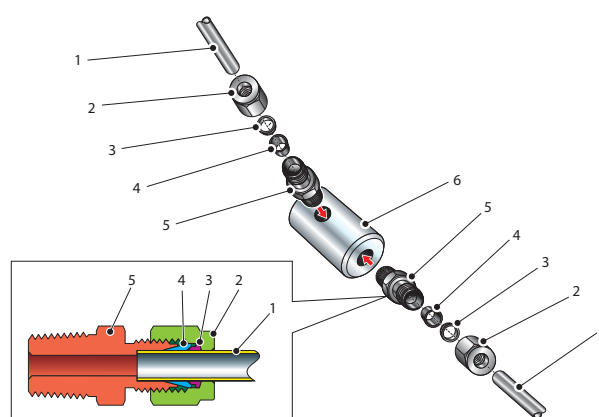

Figure 8 *Sample Block Gas Connections*
Sample gas connections are made to the Gas In and Gas Out ports on the sample block see *Figure 8*. Either port on the sample block may be used as the Gas Input port (i.e. for connection purposes the ports are interchangeable).
Both the Input and Output gas connections are  $\frac{1}{8}$ " NPT. It is recommended that both the Gas Input and Output connections are made via  $\frac{1}{8}$ " NPT to 6mm or  $\frac{1}{8}$ " NPT to  $\frac{1}{4}$ " stainless steel tube adaptors (2 to 5 – *Figure 8*). The method of connection to the sensor block (6) is as follows:
1. Cut a suitable length of 6mm ( $\frac{1}{4}$ " U.S.) stainless steel tubing (1) and, if necessary, bend to shape to suit the location of the sensor block assembly. **NOTE: To facilitate ease of connection to the port, at least 75mm (3") of the tubing coming out of the Gas In port should be straight.**
4. Screw the  $\frac{1}{8}$ " NPT Swagelok adaptor (5) into the  $\frac{1}{8}$ " NPT inlet port in the sensor block (6) and tighten to a torque setting of 35 Nm (25 lbf-ft).
5. Pass the stainless steel tubing (1) through the locking nut (2). NOTE: Threads towards the gas port.
6. Fit the back ferrule (3) over the stainless steel tubing (1) with the bevelled end facing the back of the front ferrule (4).
7. Place the front ferrule (4) over the stainless steel tubing (1), bevelled end towards the adaptor (5).
8. Push the stainless steel tubing (1) as far as it will go into the adaptor (5) and tighten up the locking nut (2) finger tight.
9. Hold the adaptor (5) flats with a spanner and tighten up the locking nut (2) to a torque setting of 35 Nm (25 lbf-ft) (1¼ turns). This action compresses the front ferrule (4) and back ferrule (3) onto the tubing to form a gas tight seal.